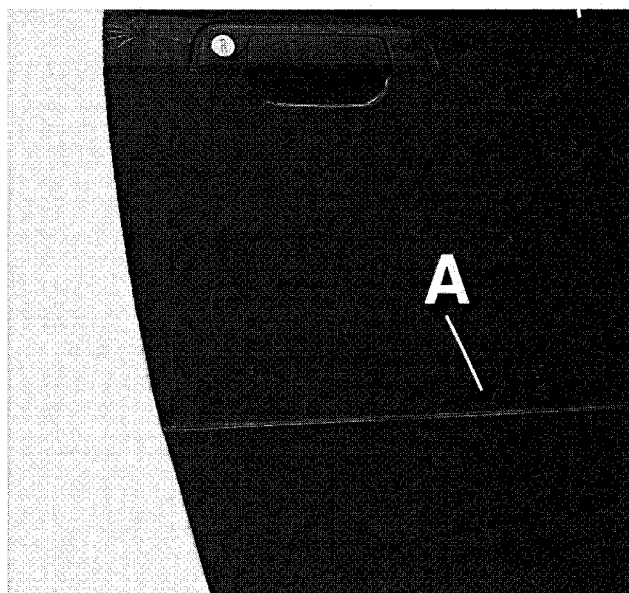

Fig. 11. Using 4mm Allen socket, reach through rear bore hole (**A**) in door to remove window guide bracket bolts. (Exterior door molding has been removed.)
8. Lower window about 4½ in. (110 mm). If necessary, temporarily reconnect battery cable. Working through bore hole in door exterior, remove lower guide bracket through-bolt from glass. See Fig. 11.